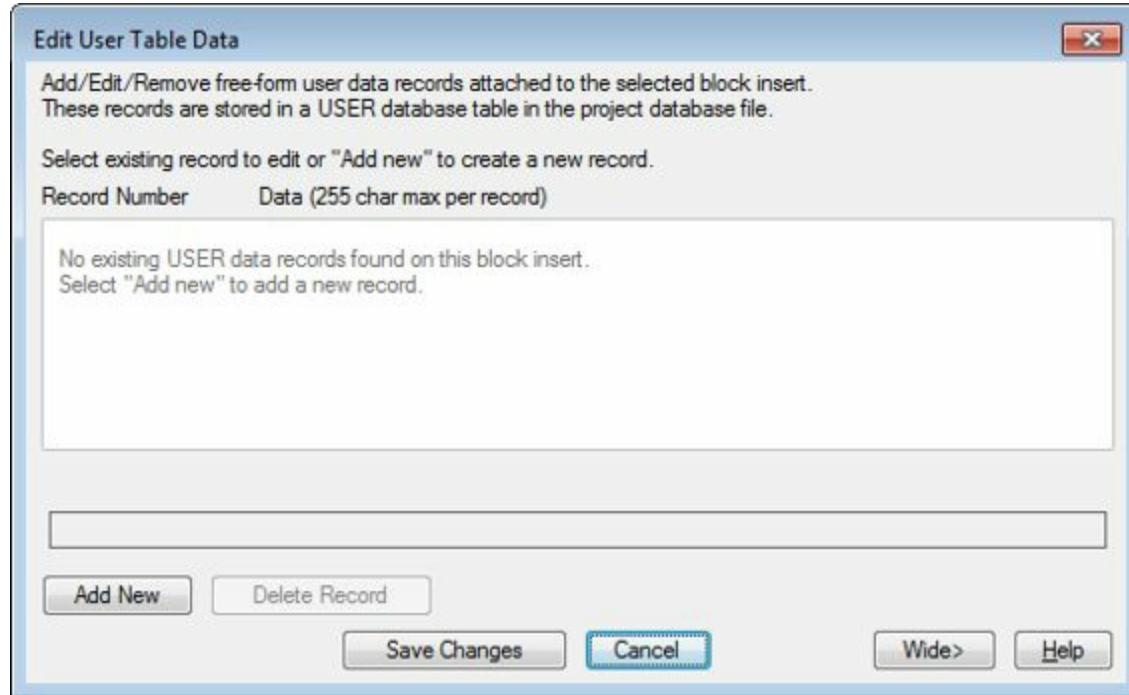

Figure-17. Edit User Table Data dialog box
- Click on the **User Table Data** tool from the **Edit Components** drop-down. The **Edit User Table Data** dialog box will be displayed; refer to Figure-17.